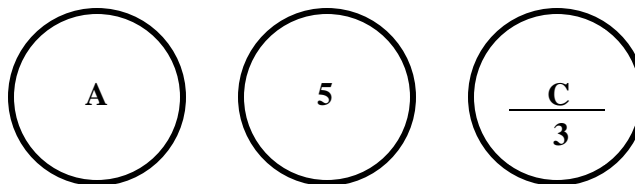

Figure 2, Reference Symbols
- Used to cross reference specific doors or windows on the elevation or floor plans with the door and window schedule (See Figure 2, Reference Symbols)